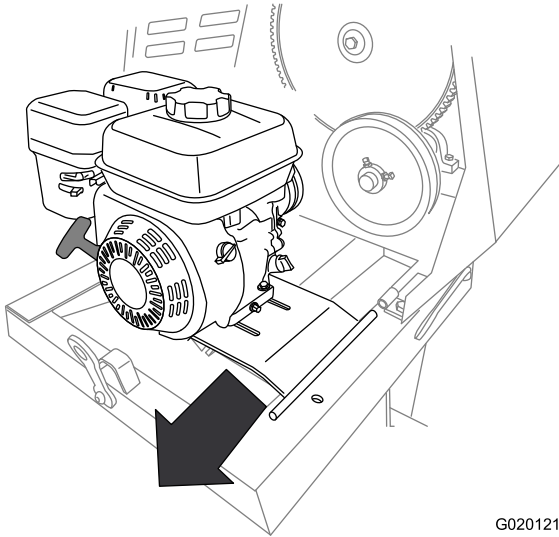

Figure 51
- Slide the engine deck rearward and out from the forward hinge bracket (Figure 51).
11. Remove the engine and engine deck from the machine (Figure 51).
2. Align the pivot on the engine deck with the forward hinge bracket (Figure 51).
3. Slide the engine deck forward and the pivot into the forward hinge bracket (Figure 51).
4. Align the rear hinge bracket with the pivot on the engine-deck hinge (Figure 51).